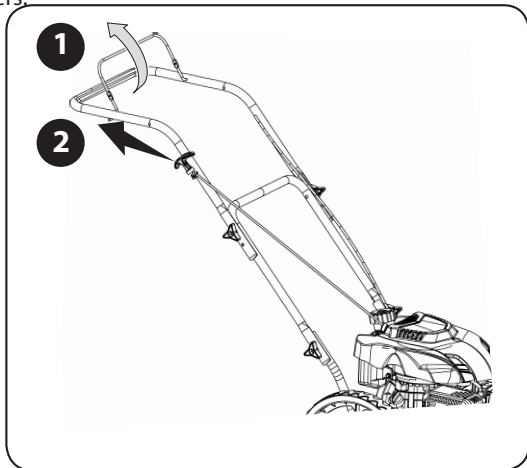

Figure 5-2
- Press the priming pump one or two times and depress control lever. See Figure 5-2 ①. and pull the starter rope to start the engine. See Figure 5-2 ②.